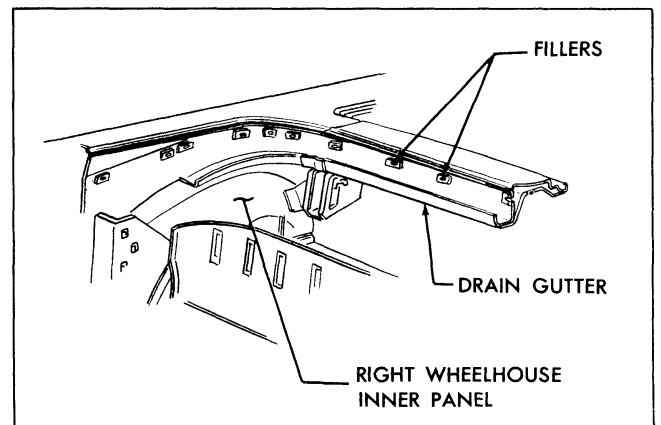

Fig. 22-41 Checking Trim Stick Fillers
14. Inspect rubber trim stick fillers cemented to body below pinchweld. Recement if necessary (Fig. 22-41).